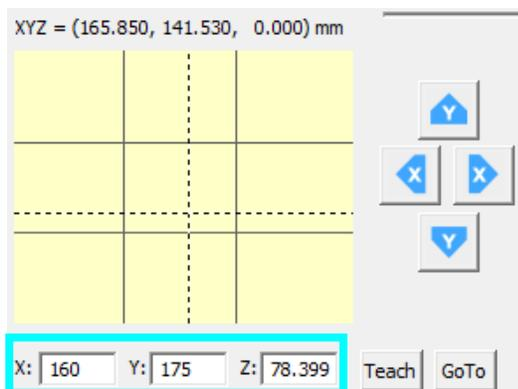

Figure 3-13: Enter the Go To Coordinates
- Enter 160, 175, and 78.399 in the respective X, Y, and Z fields as shown in Figure 3-13.